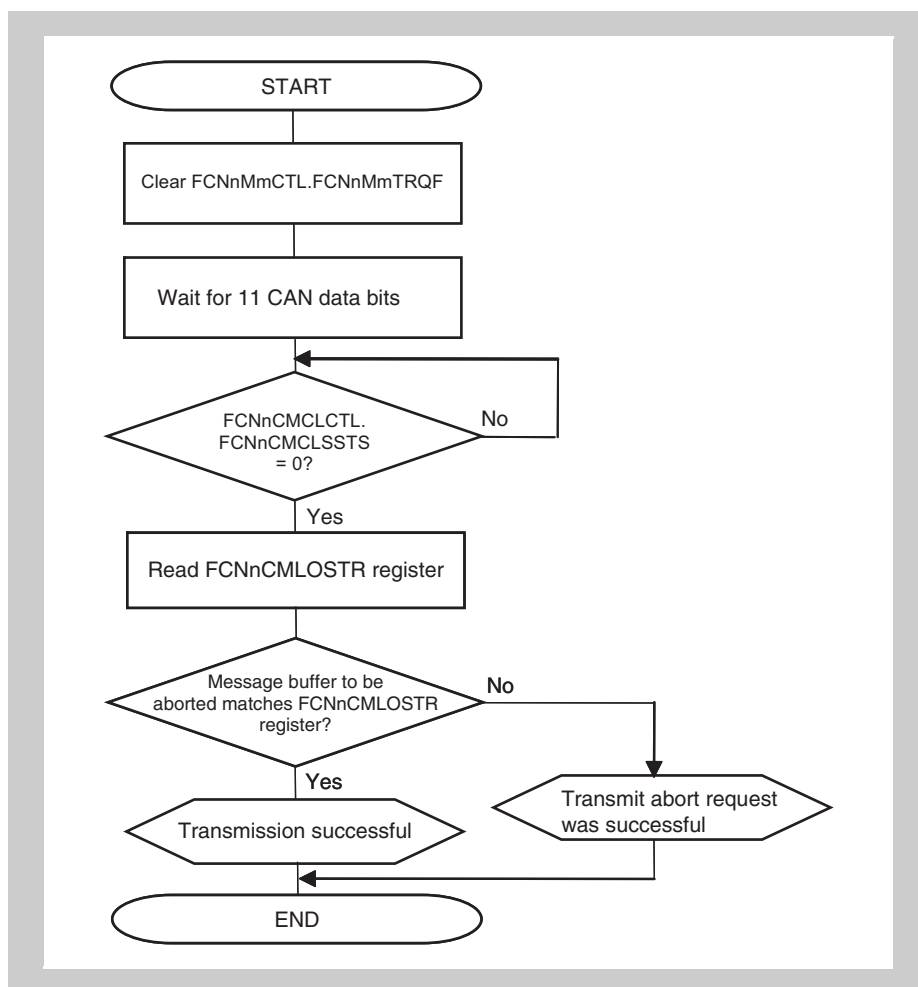
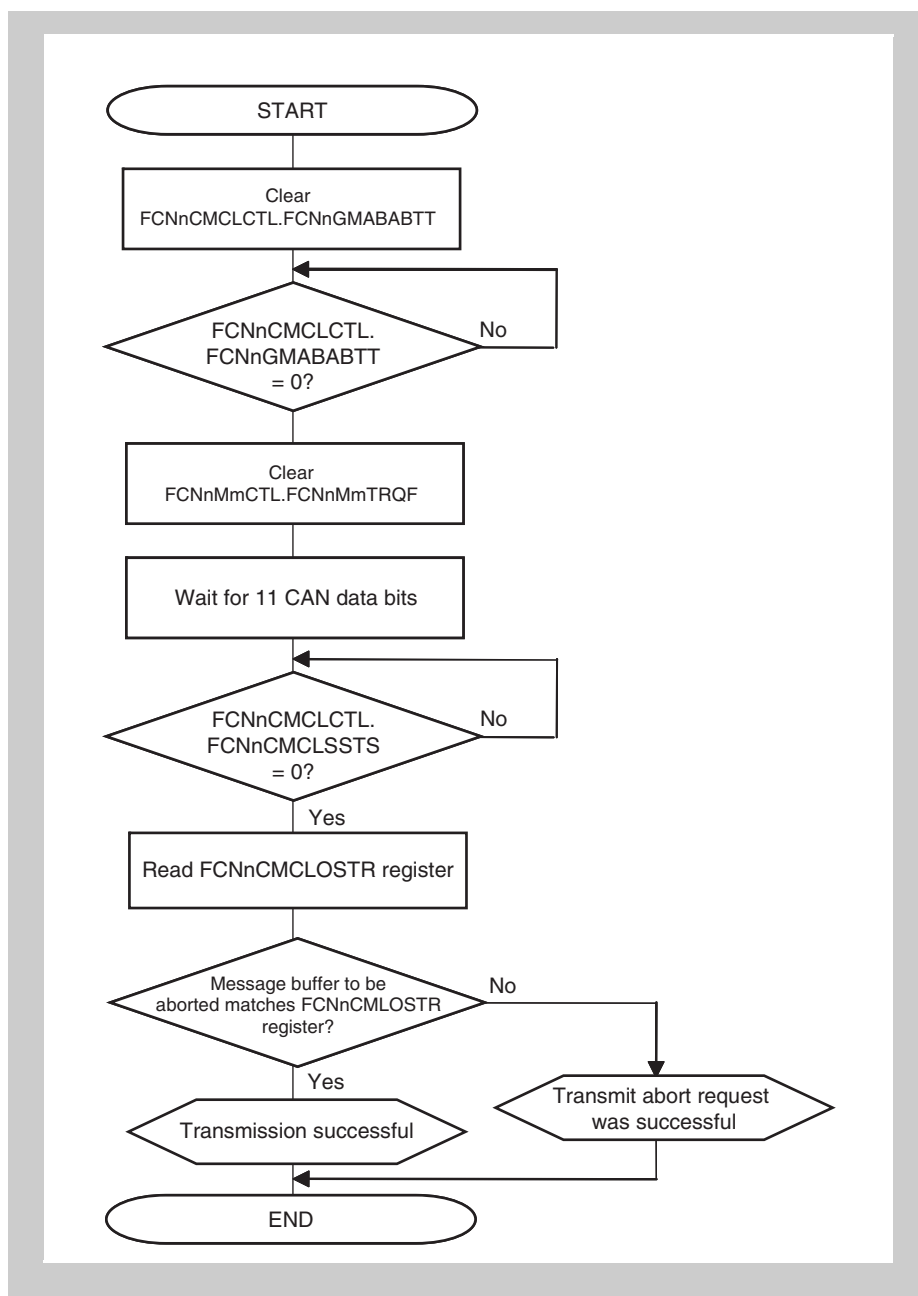
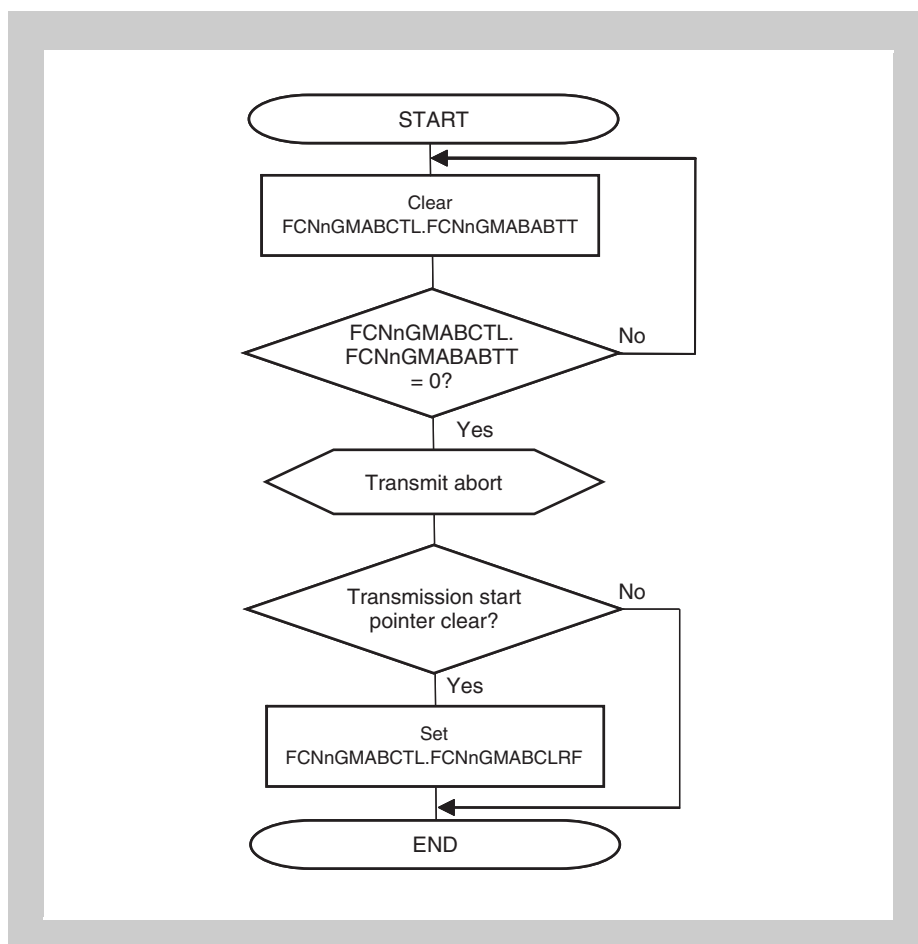

Figure 24-24 Transmission abort processing (except normal operation mode with ABT)
Figure 24-25 Transmission abort processing (normal operation mode with ABT) - Repeat option for aborted message
Figure 24-26 ABT transmission request abort processing (in normal operation mode with ABT) (1)
- In the initialization mode state following clearing of all transmission requests according to the transmission abort processing described in Figure 24-24 “Transmission abort processing (except normal operation mode with ABT)” during the operation mode (Clear all the transmission requests according to the transmission abort processing described in Figure 24-25 “Transmission abort processing (normal operation mode with ABT) - Repeat option for aborted message” in the normal operation mode with ABT.)
Figure 24-26 “ABT transmission request abort processing (in normal operation mode with ABT) (1)” shows the processing to not skip resumption of transmitting a message that was stopped when transmission of an ABT message buffer was aborted.
2. Make a FCN sleep mode/FCN stop mode request after FCNnGMABCTL.FCNnGMABABTT is cleared (after ABT mode is stopped) following the procedure shown in Figure 24-26 “ABT transmission request abort processing (in normal operation mode with ABT) (1)”. When clearing a transmission request in an area other than the ABT area, follow the procedure shown in Figure 24-24 “Transmission abort processing (except normal operation mode with ABT)” on page 1505 .
2. Make a FCN sleep mode/FCN stop mode request after FCNnGMABCTL.FCNnGMABABTT is cleared (after ABT mode is stopped) following the procedure shown in *Figure 24-26 “ABT transmission request abort processing (in normal operation mode with ABT) (1)”*. When clearing a transmission request in an area other than the ABT area, follow the procedure shown in *Figure 24-24 “Transmission abort processing (except normal operation mode with ABT)” on page 1505*.